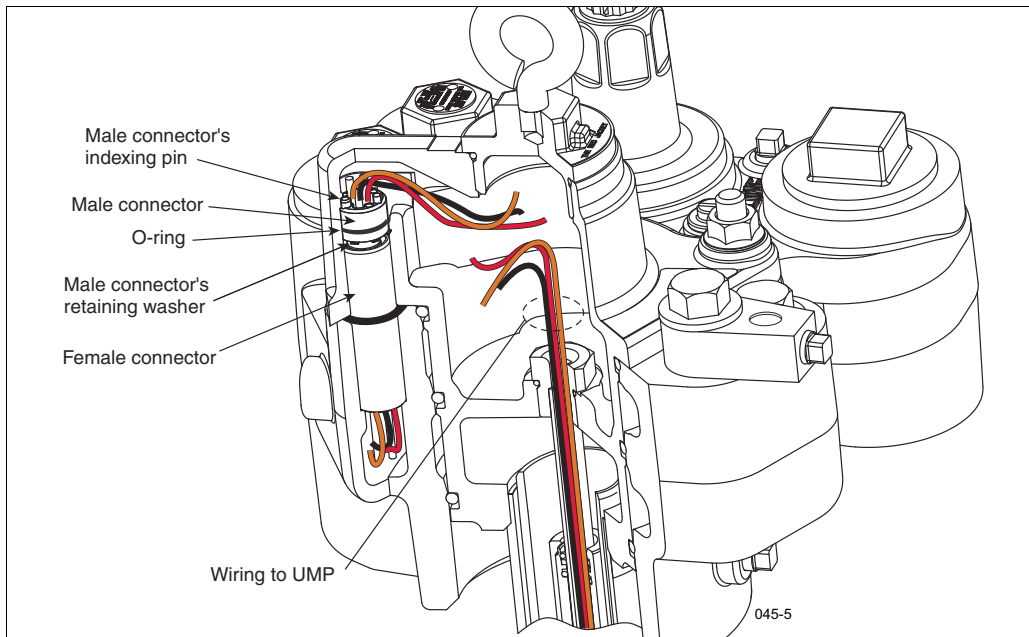

Figure 32. Packer-To-Manifold Wiring Connectors
5. Locate the male connector inside the packer (see Figure 32).
27. Remove the manifold's female connector's O-ring. Get the 0.862" ID x 0.103" wide O-ring from the connector kit and lubricate it with petroleum jelly. Insert this O-ring in its groove in the manifold around the female connector (see Figure 32 on page 41).